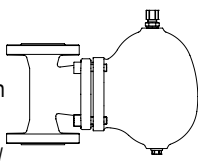

Fig. 630
- (Fig. 630....1) Grey cast iron
- (Fig. 630....2) SG iron
- (Fig. 630....3) Forged steel /
- (Fig. 630....4) Cast steel
- Controller with integrated automatic ventilation (except Fig. 630)